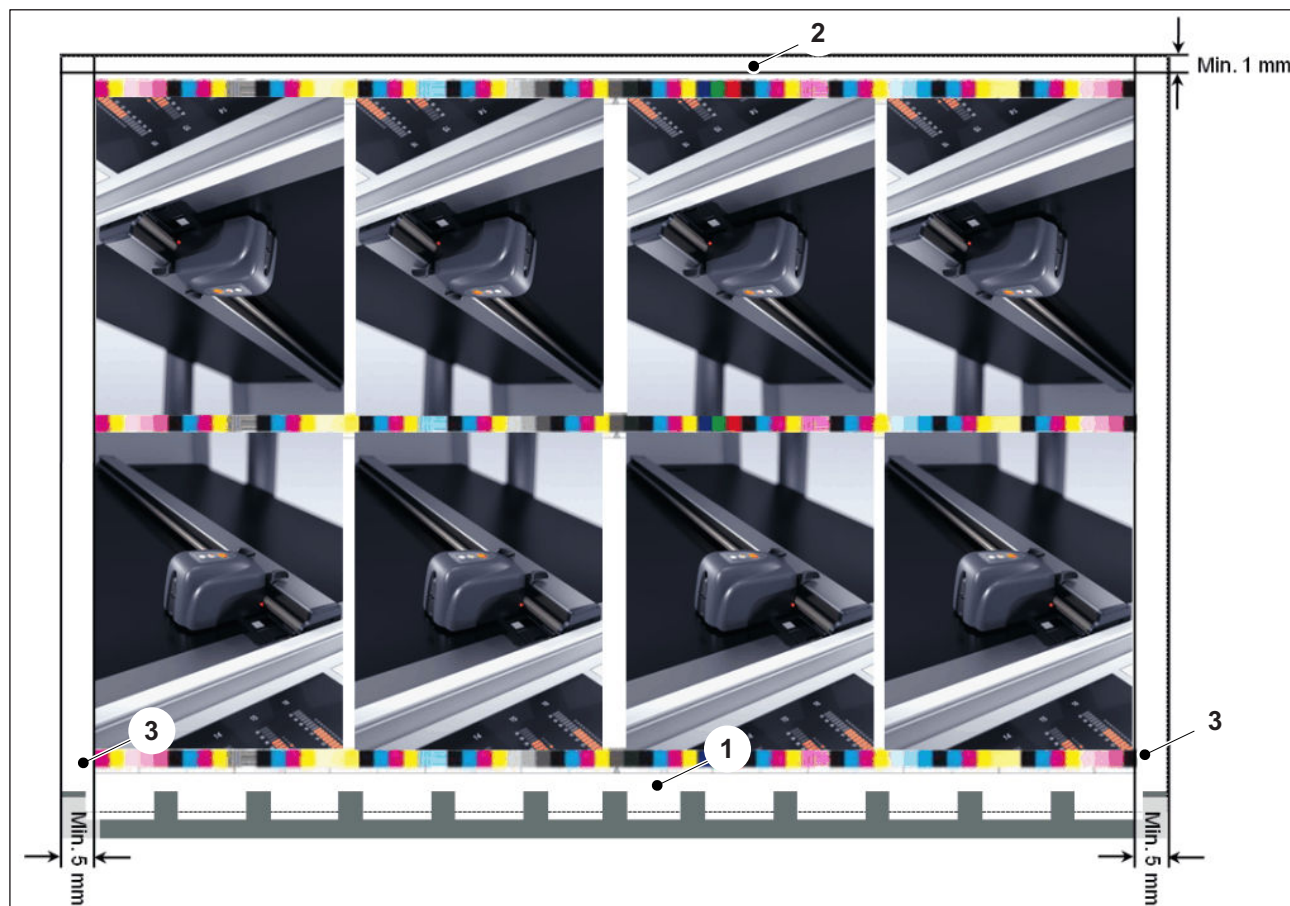

Fig. 11 Mounting Prinect Easy Control
- You can mount the quality control strip at any position you wish between the gripper margin (Fig. 11/1) and the rear edge of sheet (Fig. 11/2).
- In order to facilitate the automatic paper white measurement and detection of the quality control strip, there must be at least 5 mm of paper white between the lateral sheet edges and the start of the quality control strip (Fig. 11/3).